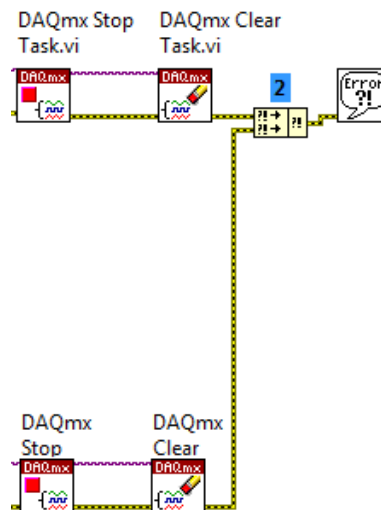

Figure 34. All your error wires are combined so the Simple Error Handler can display the errors to the user.
19. Wire the error wire from the output of the bottom DAQmx Clear Task VI into the new input of the Merge Errors function. Your code should look like Figure 34.